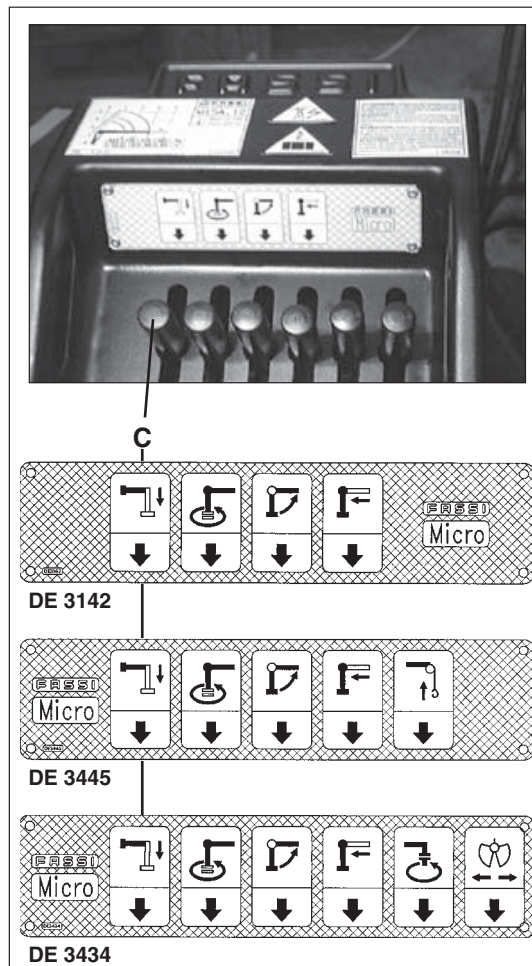

fig. 16
- Lever **C** Outrigger rams control distributor for the crane. Fig. 16
The controls of the outrigger supports and rams, indicated in the fig. 16 coincide with the plates **DE3142** or **DE3434** or **DE3445** placed, according to the equipment, on the console of the crane control. The symbol and the graphic indicate the operating lever **C** in relation to their movement.
- Operate the control lever **C** (fig. 16) to obtain the outrigger ram descent.